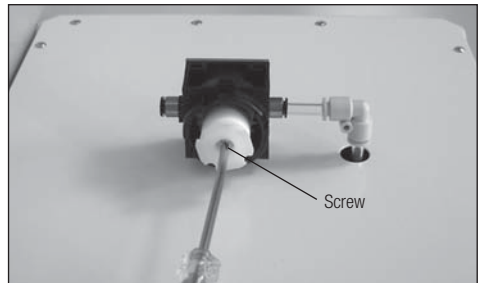

Fig. 30
- 4) Remove the bottom thread of retainer with a screwdriver. (Fig. 30)